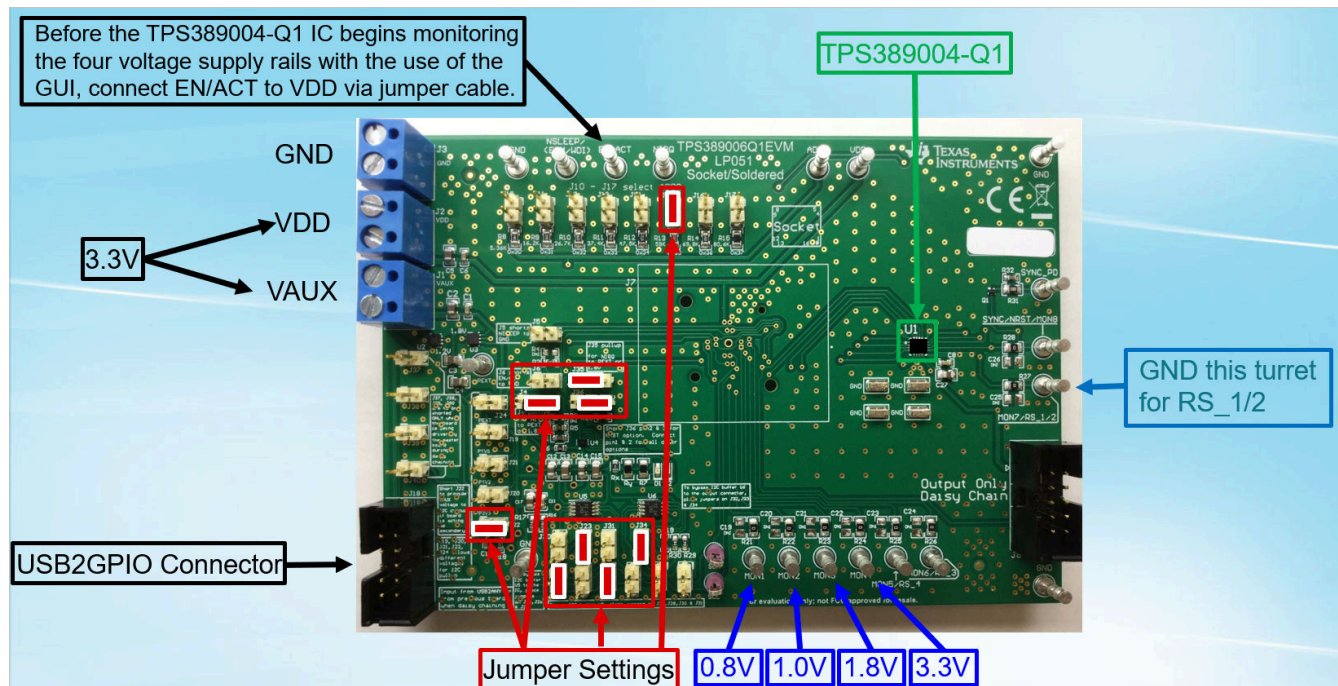

Figure 4-16. TPS389006Q1EVM Monitoring Four Voltage Supply Rails
The example below shows a TPS389004-Q1 monitoring four voltage supply rails on the TPS389006Q1EVM. Please follow the steps in Section 4.1.1 and Section 4.1.2 before evaluating the TPS389004-Q1. In this example, the TPS389006Q1EVM is set up to monitor several power supply rails after the ACT pin is asserted. Below, Figure 4-16 shows how the TPS389006Q1EVM was setup to monitor four voltage supply rails.
3. Verify that the jumper settings, highlighted in red in Figure 4-16, are set on the TPS389006Q1EVM.
6. Final Connections must look similar to Figure 4-16.